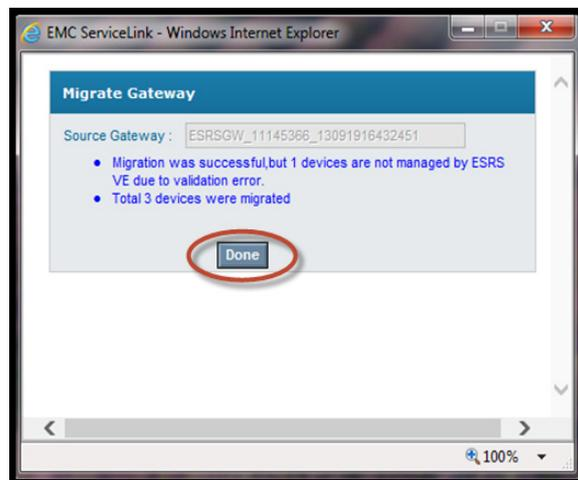

Figure 139 Clicking Done
7. When the process is complete, click **Done** to close the dialog box, as shown in Figure 139 on page 116.